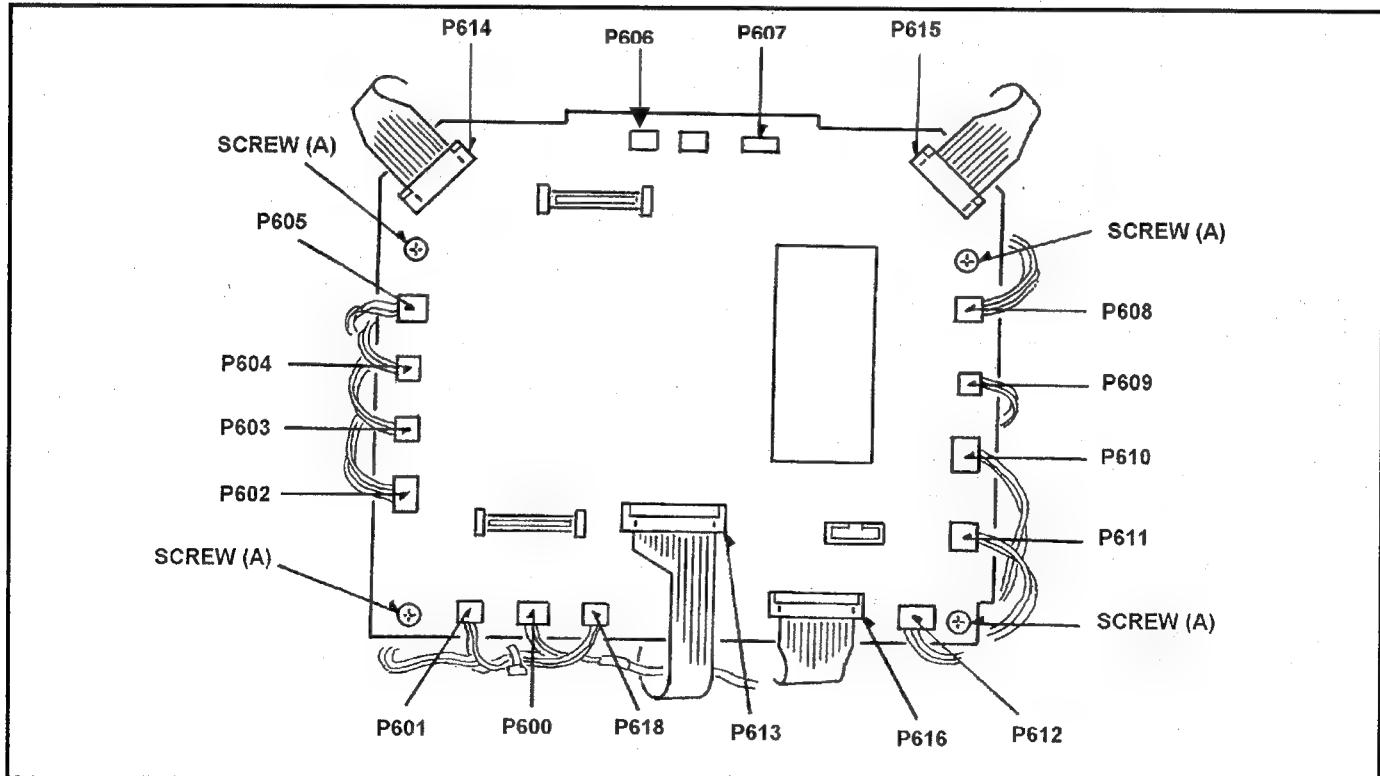
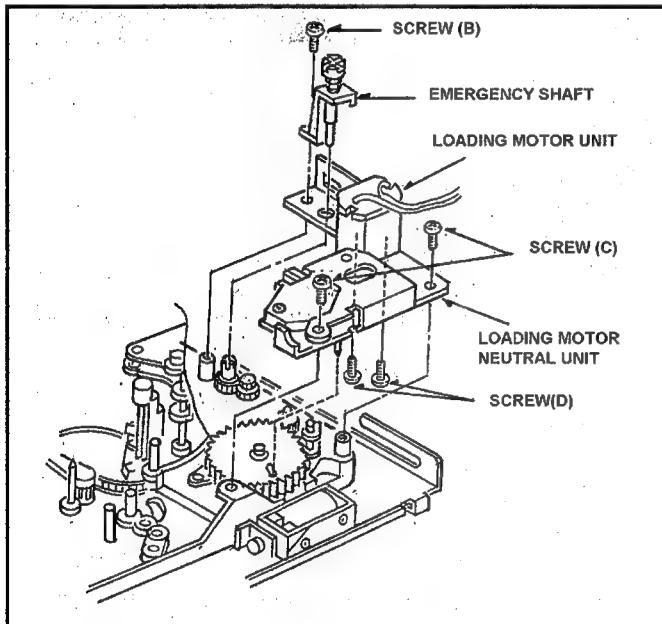
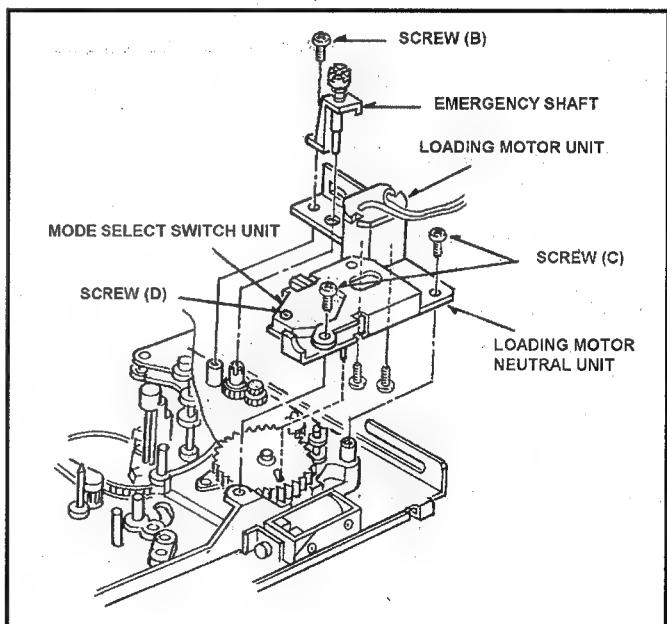

Fig. 10-3-1 Connection of Servo P.C.Board
Fig. 10-4-1 Removal of Loading Motor Unit
Fig. 10-7-1 Removal of Mode Select Switch Unit
3. Disconnect the **connector P612** on **Servo P.C.Board** as shown in Figure 10-3-1.
4. Remove the Pinch Solenoid Unit (Refer to item 10-9).
5. Remove the Pinch Solenoid Lever. (Refer to item 10-5).
6. Unscrew the **screw (B)** to remove the Emergency Shaft as shown in Figure 10-4-1.
7. Unscrew the **2 screws (C)** to remove the Loading Motor Neutral Unit as shown in Figure 10-4-1.
8. Unscrew the **2 screws (D)** to remove the Loading Motor Unit as shown in Figure 10-4-1.
3. Disconnect the **connector P610** on the **Servo P.C.Board** as shown in Figure 10-3-1.
3. Remove the Mech Chassis Unit (Refer to item 11-4).
4. Disconnect the **all connectors** on Servo P.C.Board. Unscrew the **4 screws (A)** to remove the Servo P.C.Board as shown in Figure 10-3-1.
5. Unscrew the **screw (A)** to remove the Cassette Down Photo Unit.
6. Unscrew the **screw (B)** to remove the M-Lock/Release Piece Unit.
7. Unscrew the **2 screws (C)** to remove the M cassette Brake Base Unit. Then pick up the pin of Eject Arm Unit.
3. Disconnect the **connector P612** on the **Servo P.C.Board** as shown as Figure 10-3-1.
4. Remove the Pinch Solenoid Unit and Loading Motor Neutral Unit (Refer to item 10-4).
5. Remove the **screw (D)** to remove the Mode Select Switch Unit from Loading Motor Neutral Unit as shown in Figure 10-7-1.